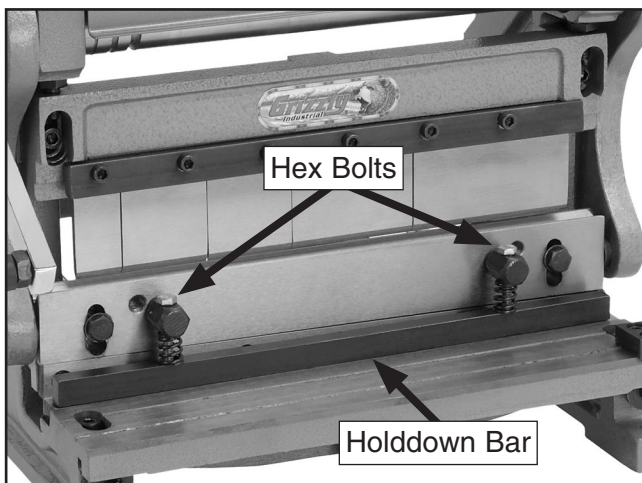

Figure 54. Shear holddown bar.
1. Remove the hex bolts and springs that secure the shear holddown bar (see **Figure 54**).